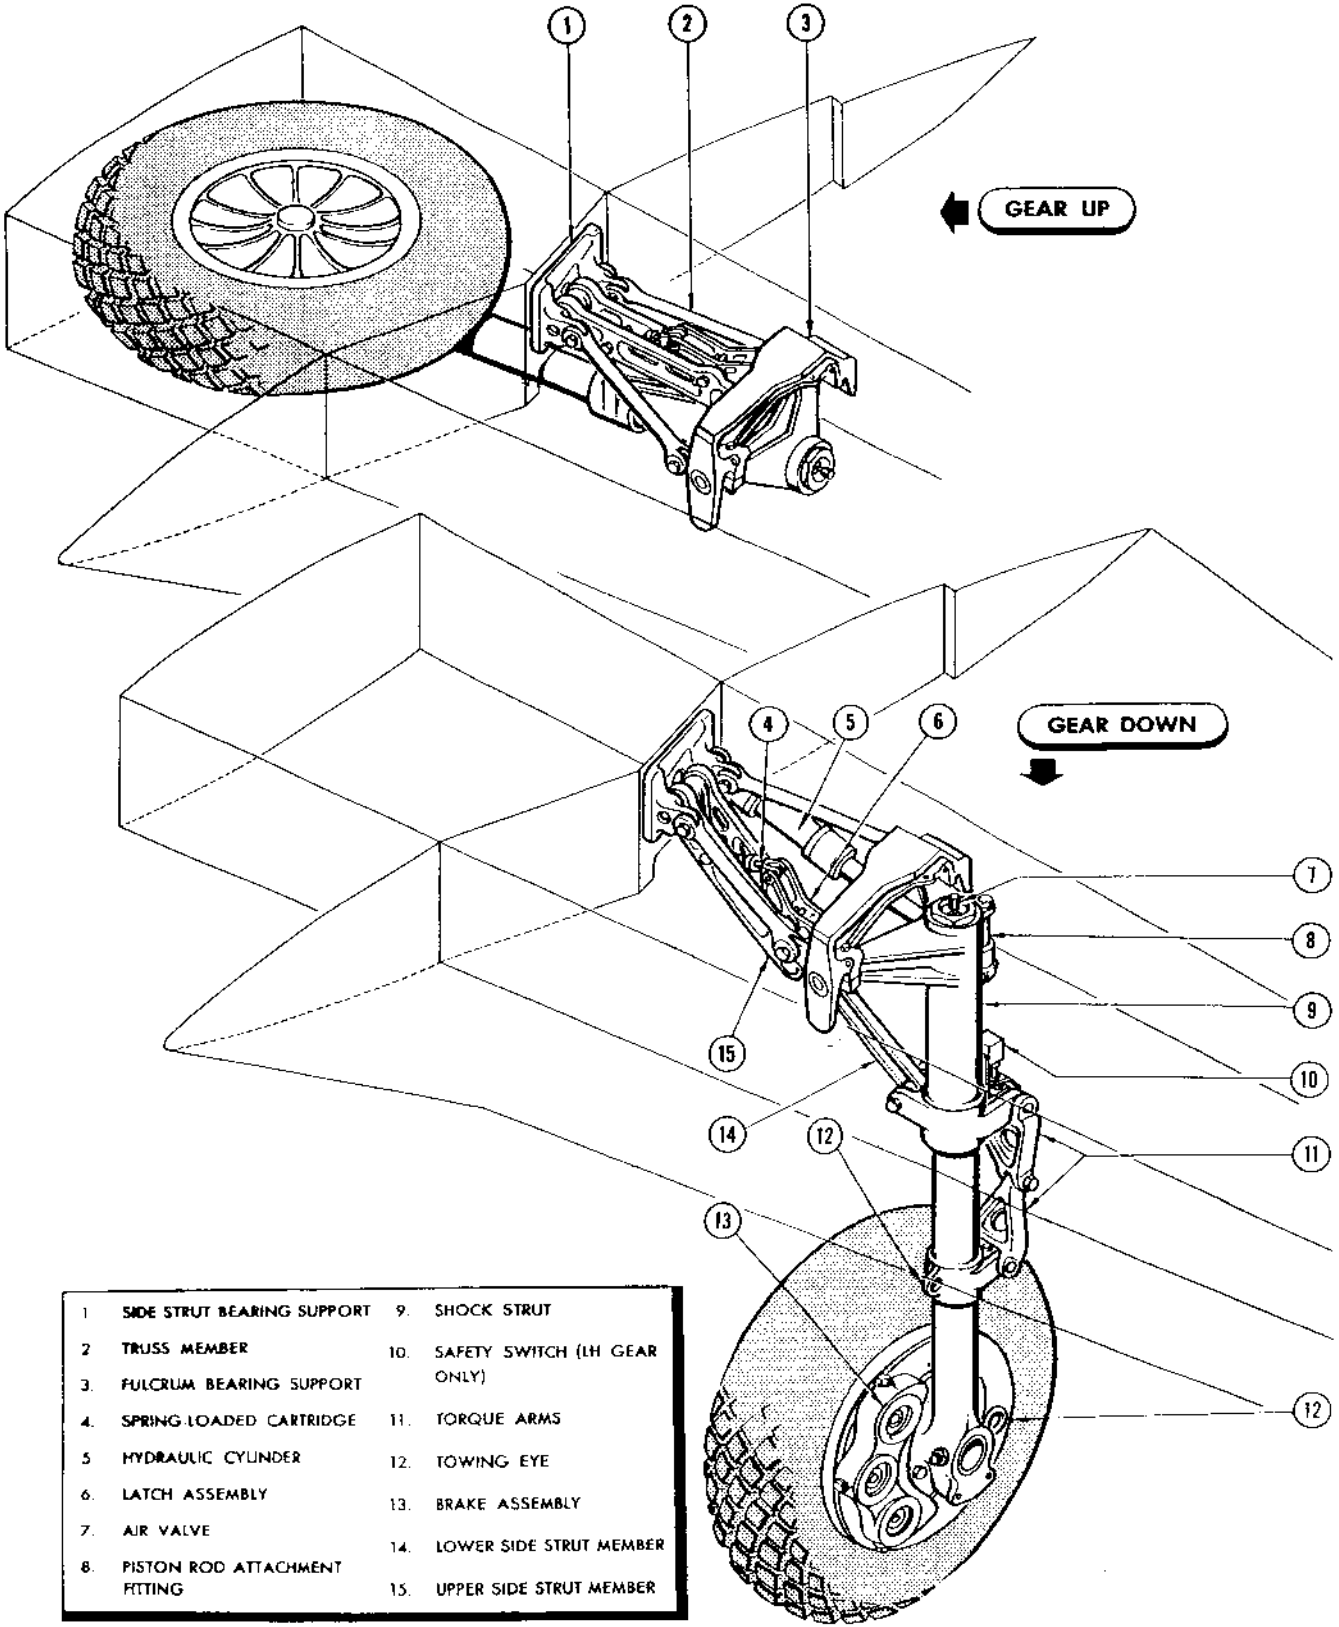

Figure 62 — Main Alighting Gear
b. MAIN ALIGHTING GEAR. (See figure 62.)